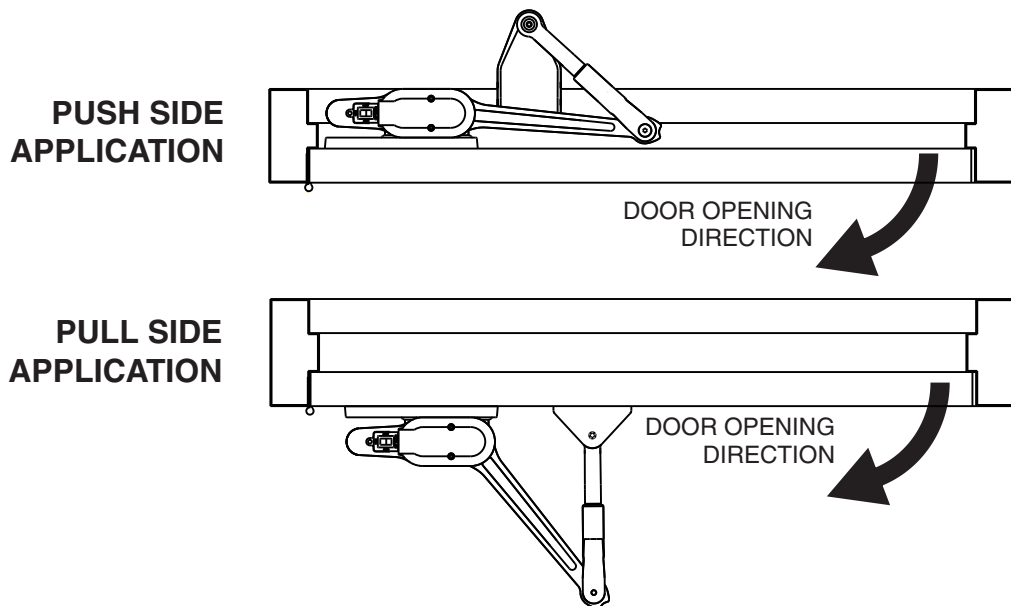

Figure 5
2. Refer to Figure 5, and DETERMINE if the door is a push-side application or a pull-side application.